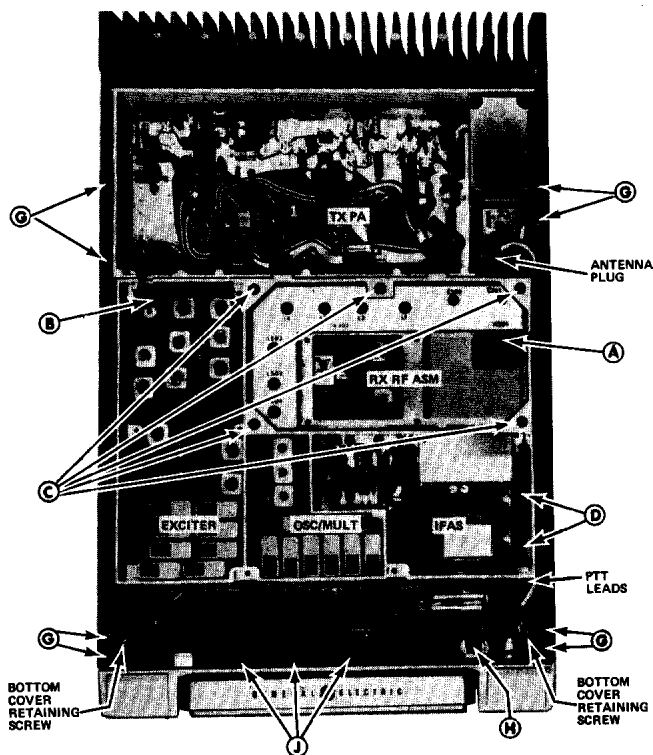
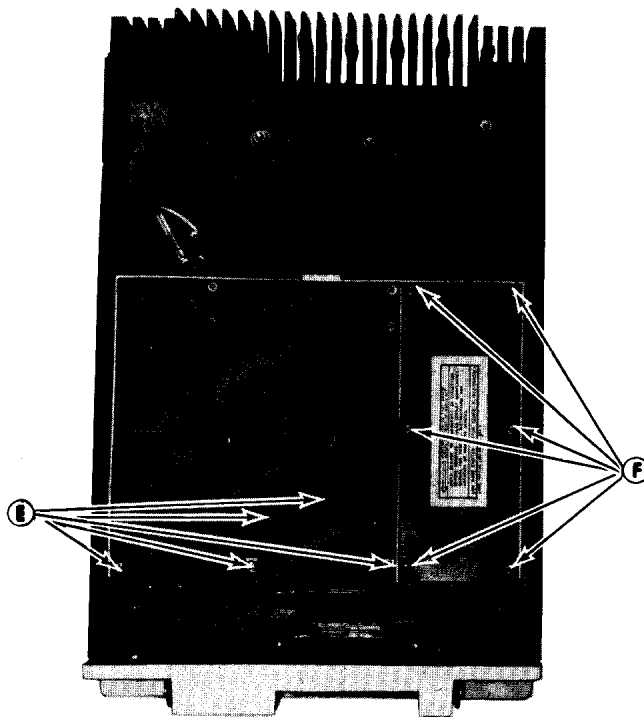

Figure 8 - Disassembly Procedure (Top View)
Figure 9 - Disassembly Procedure (Bottom View)
2. Disconnect the receiver antenna input plug (A), and the exciter output plug (B). (see Figure 8).
3. Remove the five screws (C) holding the receiver RF assembly to the module mounting frame. Then remove the two screws (D) holding the receiver audio PA heatsink to the right side rail.
4. Remove the five screws (E) holding the receiver boards to the module mounting frame (see Figure 9).
5. Remove the six screws (F) holding the exciter board and its bottom cover to the module mounting frame.
7. Remove the four screws (G) in each of the side rails and remove the side rails (see Figure 8). NOTE: Remove the shield on the left side rail to expose the power cables, and if desired, unsolder the cables from the bottom of the PA Assembly.
9. If it is necessary to remove the System Board from the front casting, remove the mounting screw (H) from regulator transistor Q901. Then remove six screws (J) (three along the top and three along the bottom) on System jack J901 and remove the System Board.